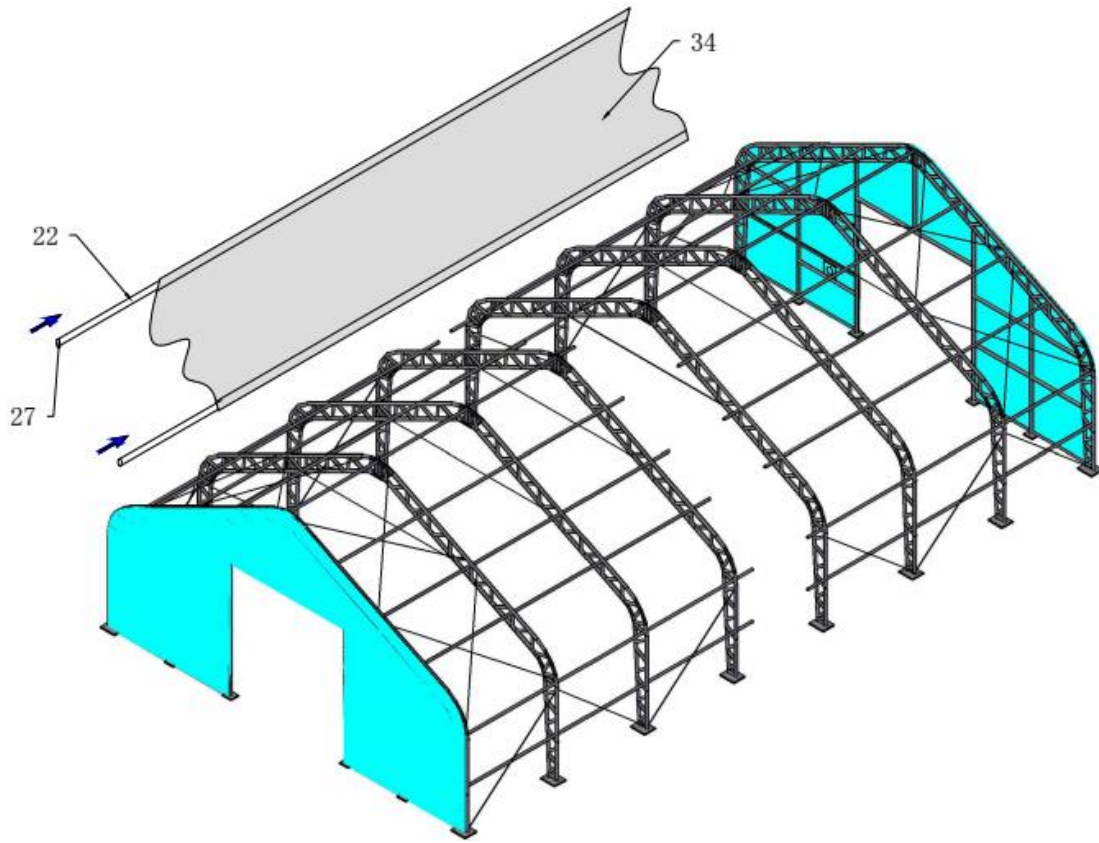

Figure 10
1.As Figure 10 shows, when Roof cover is over top of Frame assembly (see Figure 10)